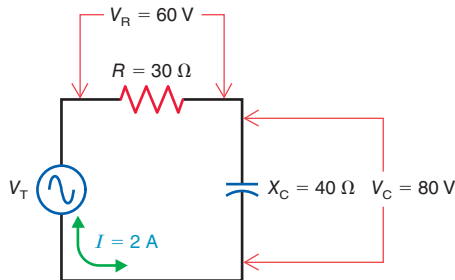

Figure 17-11
- 17.3 In Fig. 17-11, how much current, I , is flowing
- 17.4 In Fig. 17-11, what is the phase relationship between
- 17.5 In Fig. 17-11, how much is the applied voltage, V_T ?
- 17.6 Draw the phasor voltage triangle for the circuit in Fig. 17-11. (Use V_R as the reference phasor.)